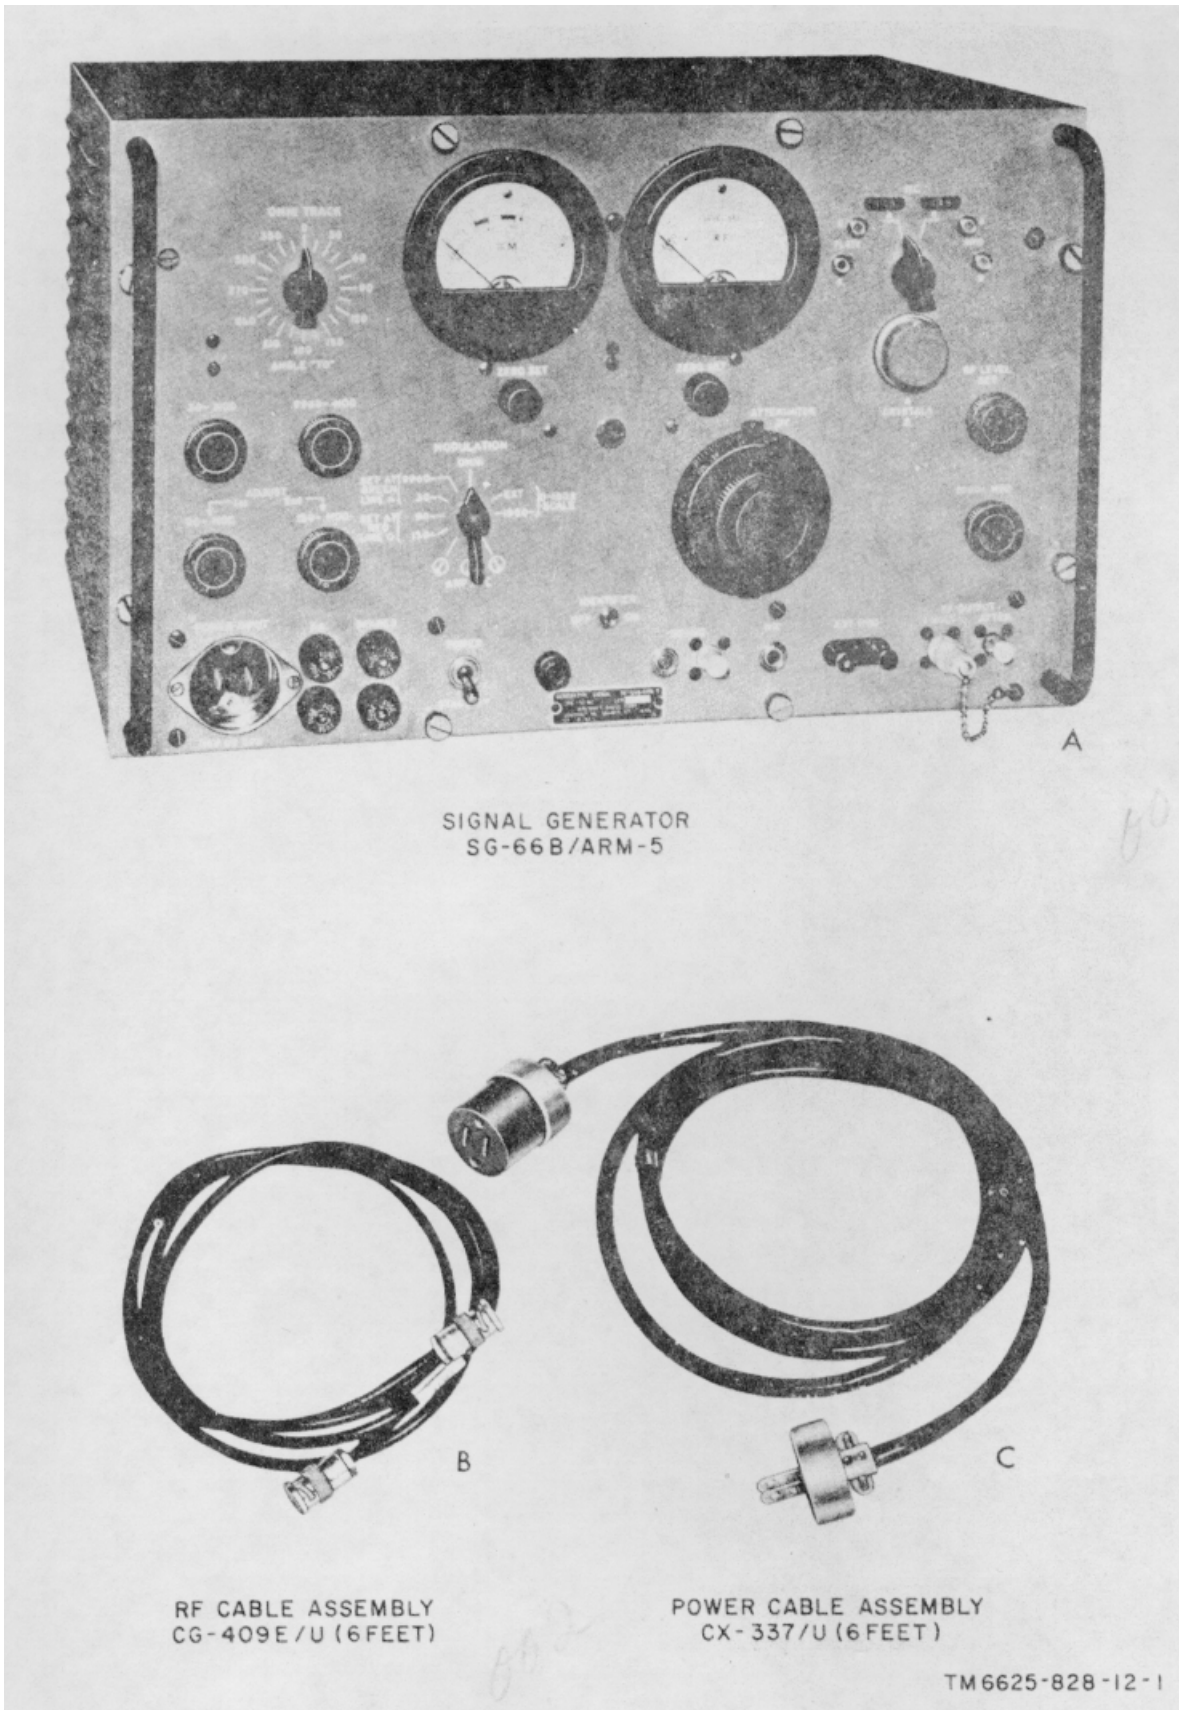

Figure 1-1. Test set, Radio AN/ARM-5A, less running spares.
a. This manual describes Test Set, Radio AN/ARM-5A (fig. 1-1) and provides instructions for installation, operation, and operator and organizational maintenance. It includes instructions for operation under usual and unusual conditions, cleaning, and inspection of the equipment.